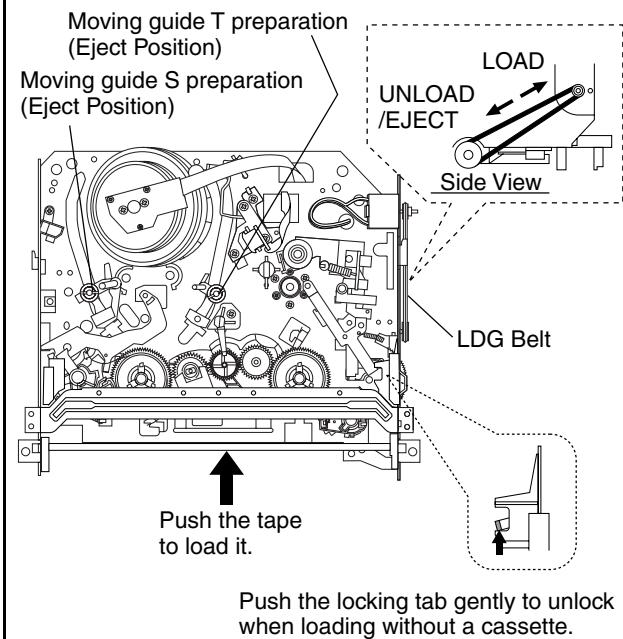

Fig. 5-4-1
4. Turn the LDG Belt in the appropriate direction shown in Fig. 5-4-1 for a minute or two to complete this task.
4. Turn the LDG Belt in the appropriate direction shown in Fig. 5-4-1 until the Moving guide preparations come to the Eject Position. Stop turning when the preparations begin clicking or can not be moved further. However, the tape will be left wound around the cylinder.
3. Turn the LDG Belt in the appropriate direction shown in Fig. 5-4-1. Release the locking tabs shown in Fig. 5-4-1 and continue turning the LDG Belt until the Cassette Holder comes to the tape-loaded position. Allow a minute or two to complete this task.